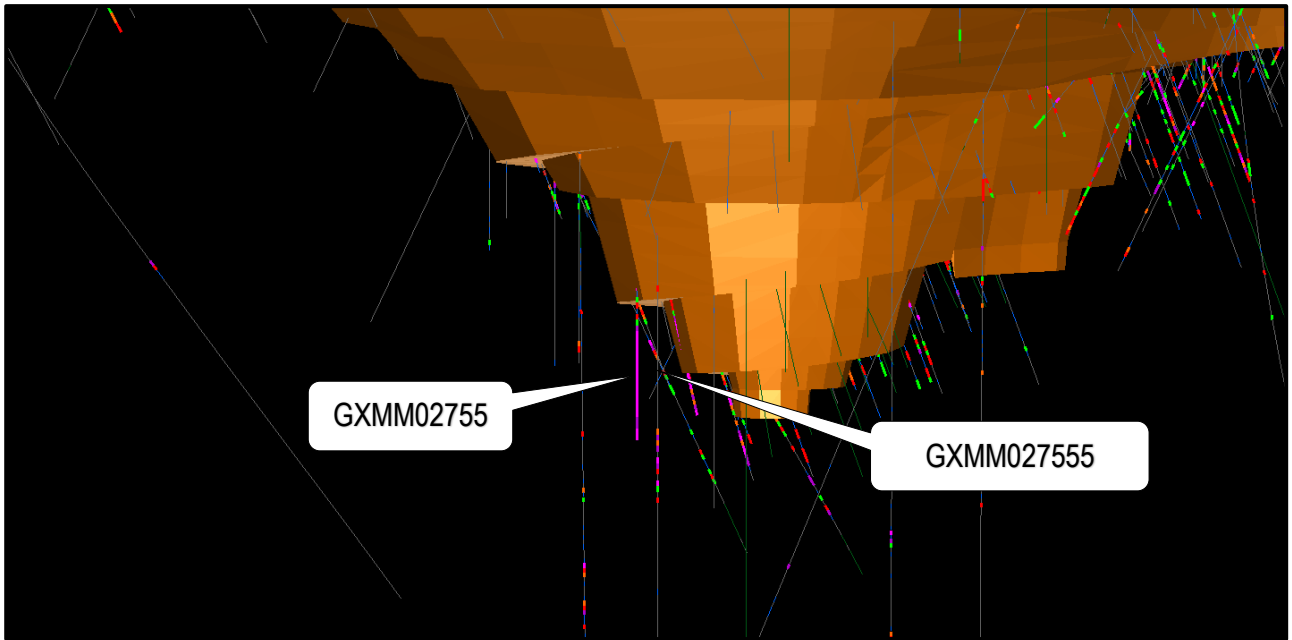

Figure 2: Rotated view of Stellar pit looking west, the two high grade intersections are depicted by the magenta hole traces
- **19m at 243 g/t Au** from 29m, including **9m at 530 g/t Au** from 31m (Figures 2 & 3)